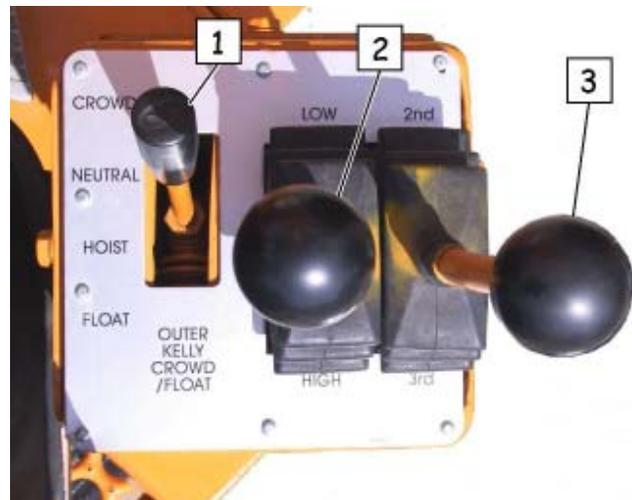
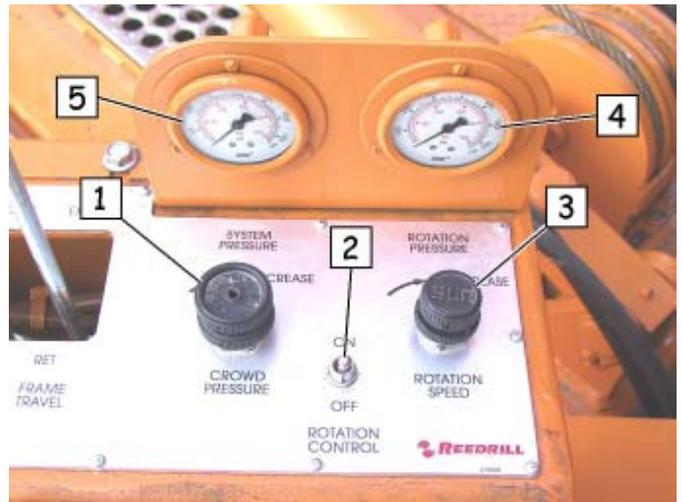

Fig. 4-6 Outer Kelly and Gear Selectors
Fig. 4-7a Main Control Valve Console - Right Side
2. Use the TRANSMISSION GEAR SELECTORS (2 & 3, fig. 4-6) to select the proper gear in which to drill. You can also adjust engine RPM which will change the displacement of the transmission drive motor.
- b. Use the rotation speed control valve (item 3, fig. 4-7a). To activate the valve, turn the rotation control switch (item 2, fig. 4-7a) to ON. Turn the knob CLOCKWISE to INCREASE rotation speed. You can set the rotation speed and not have to keep your foot on the foot pedal. However, you can still use the foot pedal to INCREASE the rotation speed. When the rotation control switch is turned OFF, the rotation control valve is non-functional.
4. Place the OUTER KELLY CONTROL LEVER (1, fig. 4-6) in CROWD position. You can adjust the crowd pressure by turning the knob (item 1, fig. 4-7a) CLOCKWISE to INCREASE pressure or COUNTER-CLOCKWISE to DECREASE pressure. Read the pressure on the system pressure gauge (item 5, fig. 4-7a).
- Place the OUTER KELLY CONTROL LEVER (1, fig.4-6) in the HOIST position to raise the outer kelly or FLOAT position to raise the outer and inner kelly bars together.